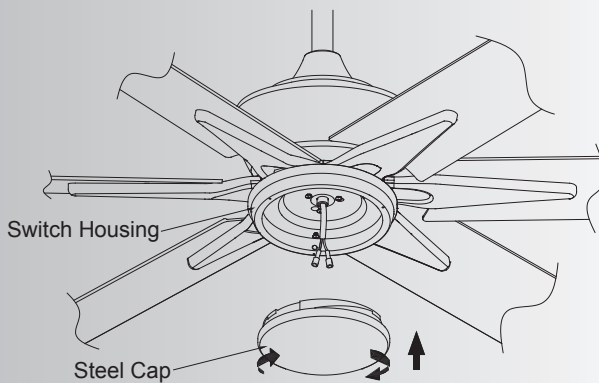

Fig. 23
**Step 4.** If you want to install the steel cap and not the light kit. Assemble the steel cap to the switch housing by twisting in a clockwise direction. (Fig. 23)